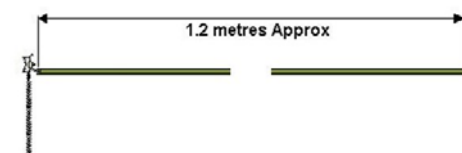

Figure 24 - Temporary Continuity Bond (TCB).
*Note: A temporary continuity bond (TCB) is used to protect the Operative and ensure that an ignition source will not be created by an electrical discharge across a temporary gap in pipe work. (Figure 24 illustrates a typical temporary continuity bond used for cutting off services).*